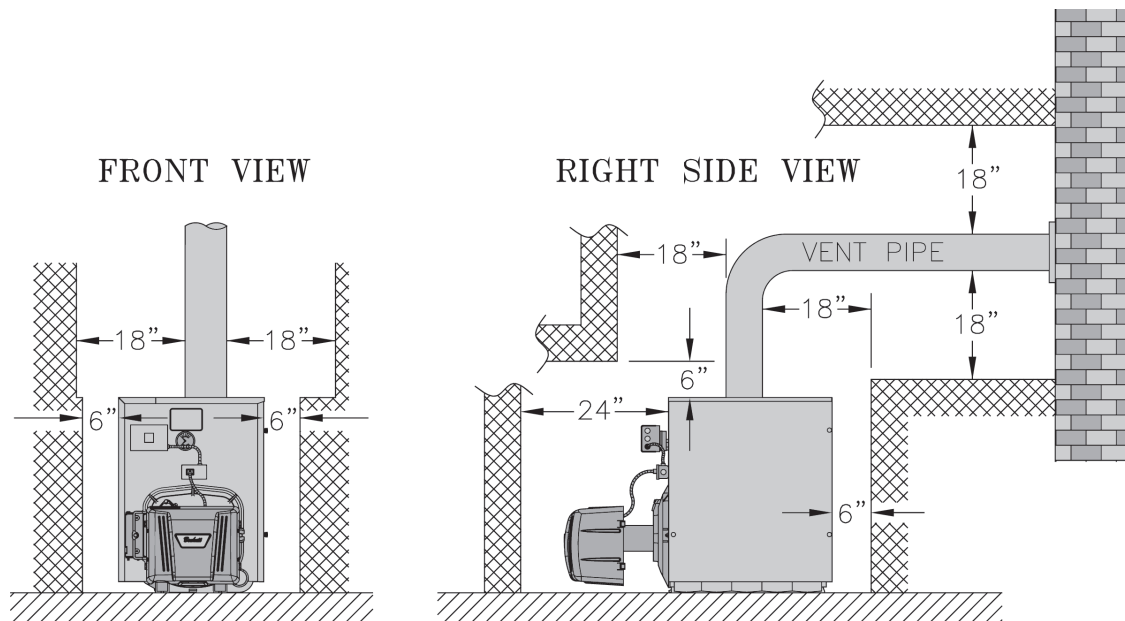

Figure 2: Minimum Installation Clearances To Combustible Materials (Inches)
5. For minimum clearances to combustible materials. See Figure 2.